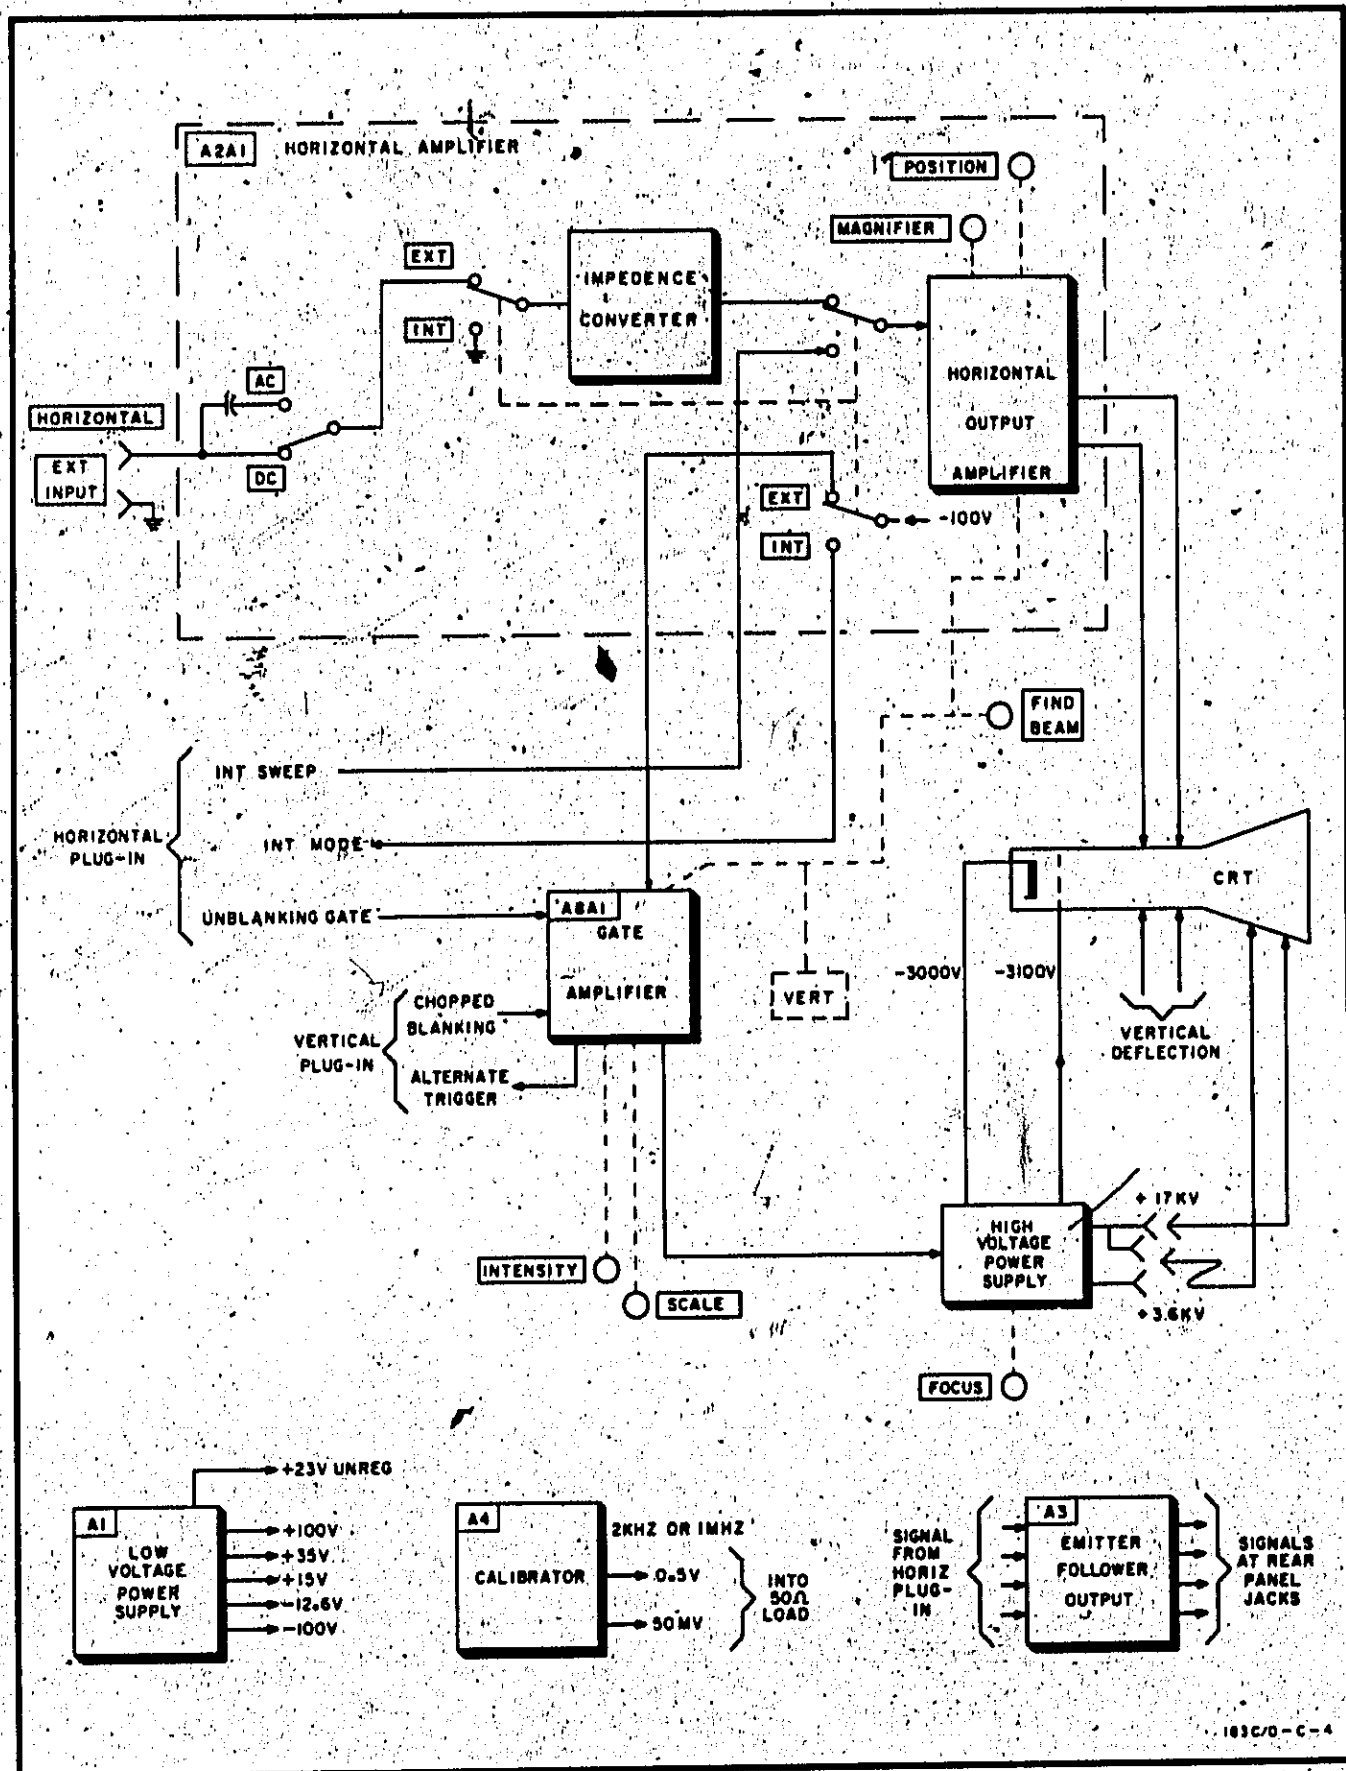

Figure 4-1. Overall Block Diagram
4.4. The Model 183C/D is a basic X-Y axis display oscilloscope with self-contained power supplies and calibrator. Two signal processing circuits are employed to amplify the horizontal output signals from the time-base plug-in and to intensify the trace during the sweep period. A low voltage power supply powers the horizontal signal amplifier, calibrator, gate-signal amplifier, hv regulator, and the plug-in modules. A high voltage power supply generates the potential for the CRT. Figure 4-1 is a block diagram of the overall instrument showing the various circuits of the Model 183C/D.